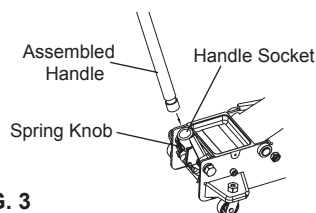

FIG. 3
3. Pull and hold the spring knob (Fig. 3).